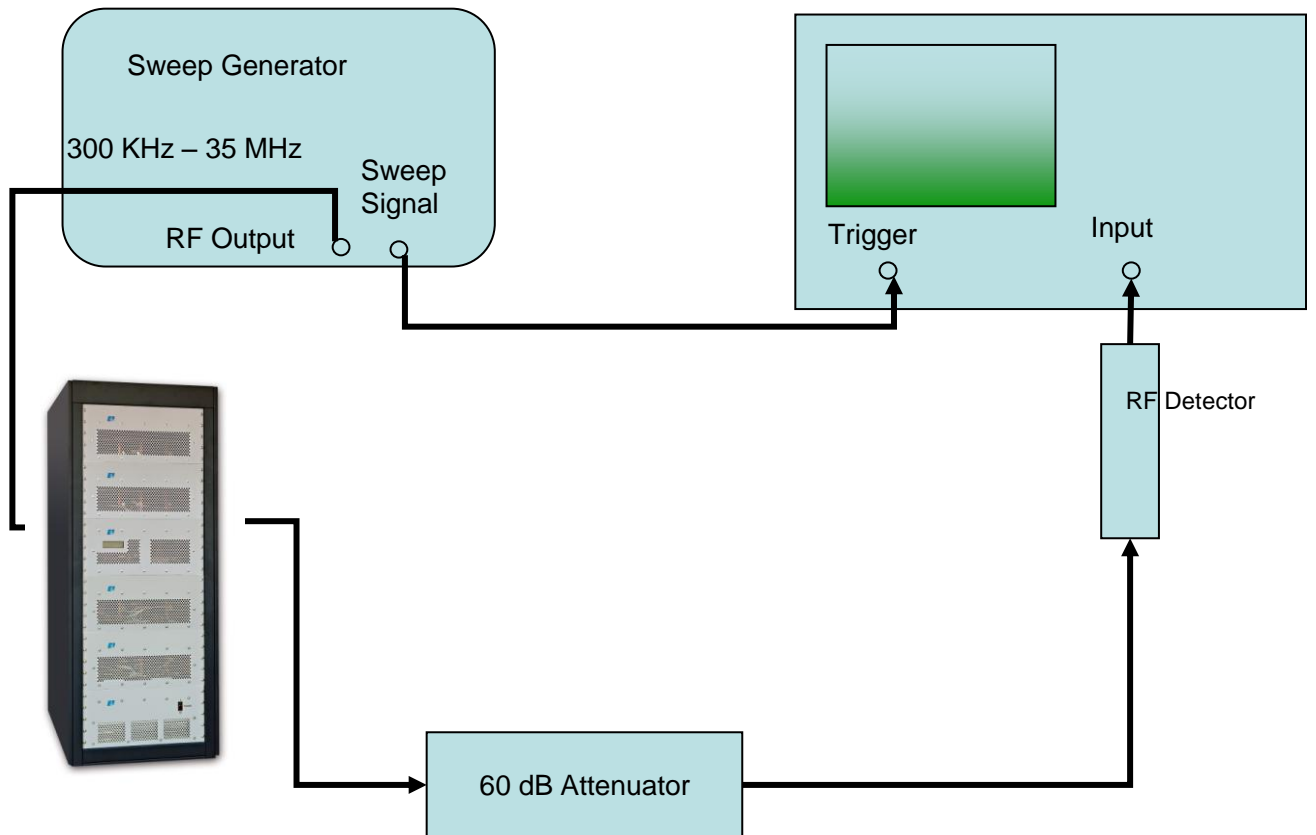

Figure 4-1. Gain Measurement
2. Connect the equipment as shown in Figure 4-1, then proceed as follows:
- g) Reconnect the A1000 into the test set-up of Figure 4-1.